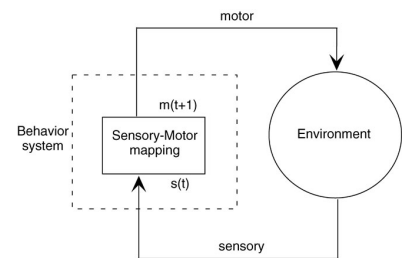

Figure 3: A schematic of a robot controlled by a sensory-motor loop.
We ended our last section on a somewhat cryptic note. If we seek to design simple robots, how on earth can they do complex things? The answer to this question lies in the fact that robots are not isolated machines, but instead interact with a complex and ever-changing world. A simple model that captures this idea is the sensory-motor loop (see Figure 3). The model situates the robot within an environment that it interacts with through two pathways.
Exercise (2) Design robots using the model in Figure 3. Restrict yourselves to robots that have no memory (i.e. ones that act at any moment in time directly based on their sensory input). To help get your creative juices flowing, it may help to make lists of sensors and actuators. You can then create interesting ideas by seeing what would happen if you paired a particular sensor with a particular actuator in a particular context. Don't worry too much about trying to design useful robots (whimsical is good), the goal here is to be creative and to think through the mental simulations necessary to understand how your robot would behave. Here are some suggestions for sensors and actuators.